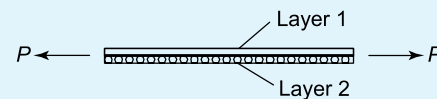

Figure 2.15 Carbon fibre layers
- Two layers of carbon fibre are stuck to each other, so that their fibres lie at  $90^\circ$  to each other, as shown in Figure 2.15. If a tensile force of 1 kN were applied to this two-layer compound bar, determine the stresses in each. For layer 1,  $E_1 = 300 \text{ GPa}$  and  $A_1 = 10 \text{ mm}^2$